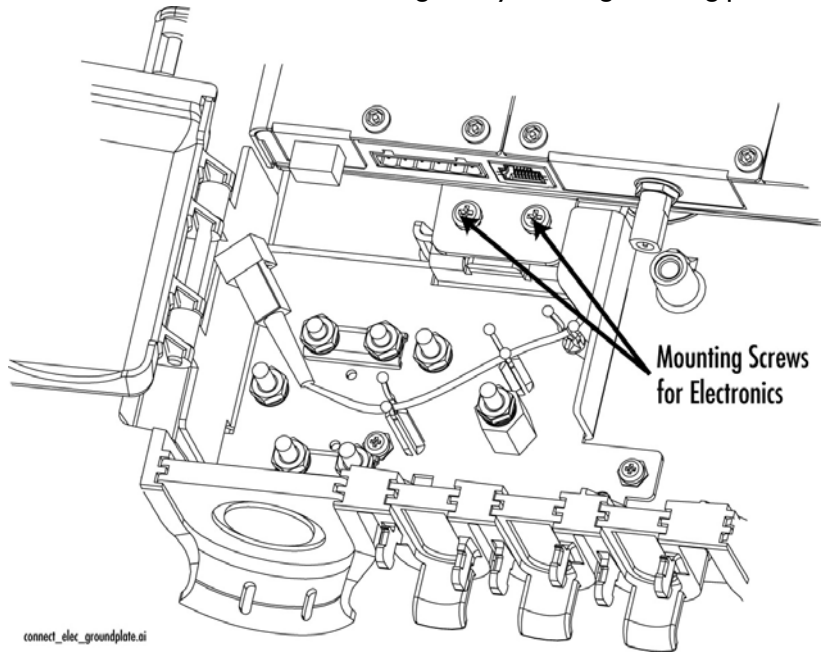

Figure 5. Mounting the Gateway
- Use two of the #8-32 SEMS screws to secure the gateway to the grounding plate as shown in Figure 5.